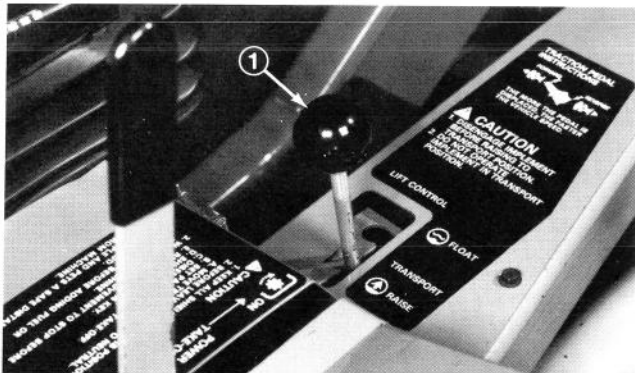
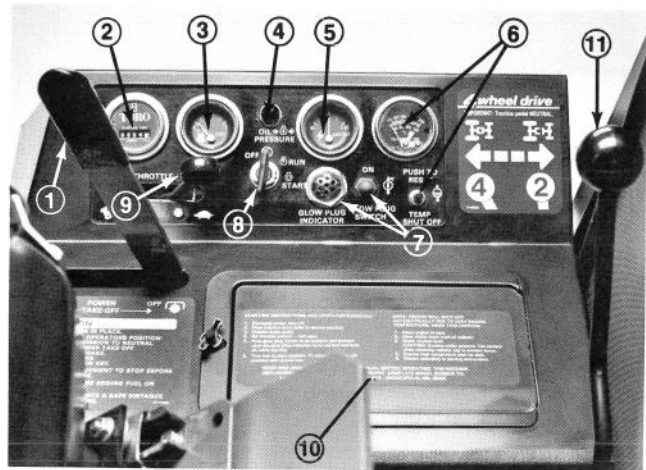

Figure 26
Figure 27
Lift Lever (Fig. 26)—The hydraulic lift lever has three positions: FLOAT, TRANSPORT, and RAISE. To lower implement to the ground, move lift lever forward into notch, which is the FLOAT position. The FLOAT position is used for operation and also when machine is not in operation. To raise
PTO Lever (Fig. 27)—The PTO lever has two positions: ON (engage) and OFF (disengage). Slowly push PTO lever fully forward to ON position to start the implement or cutting unit blades. Slowly, pull lever backward to OFF position to stop implement operation. The only time PTO lever should be in the ON position is when implement or cutting unit is down in operating position.
Hour Meter (Fig. 27)—The hour meter registers accumulated hours of engine operation. Use the hour meter to determine intervals for service maintenance and lubrication.
Fuel Gauge (Fig. 27)—Indicates quantity of fuel remaining in fuel tank.
Oil Pressure Warning Light (Fig. 27)—The oil pressure warning light glows and a buzzer sounds when oil pressure in engine drops below a safe level. If low oil pressure ever occurs, stop engine and determine the cause. Repair the damage before starting the engine again.
Ammeter (Fig. 27)—Ammeter shows charge rate of the battery by the alternator. When engine is running, there usually is a slight charge, unless engine is idling slowly. Needle points to 0 when battery is fully charged. By contrast, alternator is not charging the battery when needle points to (-) negative side of ammeter. If this happens, repair the charging system to prevent discharge of the battery.
Temperature Switch/Gauge and Reset Button (Fig. 27)—The temperature switch/gauge registers the temperature of the coolant in the cooling system. If temperature of coolant gets too high the engine will shut off automatically. When this happens, rotate ignition key to OFF. Automatic shut-off of the engine usually results from debris on front of screen or radiator, which reduces air flow. After cleaning outside of screen and radiator or repairing some other damage, press the reset button and start the engine.
Glow Plug Switch and Indicator (Fig. 27)—Use to preheat engine cylinders before and during starting procedures. Push switch lever upward and hold while watching indicator. Indicator glows red when sufficiently heated. Length of time necessary to preheat cylinders should be determined by atmospheric temperature; refer to Starting/Stopping Engine, page 22.
Key Switch (Fig. 27)—The key switch, which is used to start and stop the engine, has three position: OFF, RUN, and START. Rotate key clockwise to the START position to engage starter motor. When engine starts, release key and it will move automatically to the ON position. To shut engine off, rotate key counterclockwise to the OFF position.
Throttle Control (Fig. 27)—Throttle is used to operate engine at various speeds. Moving throttle forward increases engine speed—FAST; backward decreases engine speed—SLOW. The throttle regulates the speed of the cutter blades or other implement components and, in conjunction with traction pedal, controls ground speed of the traction unit.
4 Wheel Drive Control (Fig. 27)—Gently push lever forward to shift into 4 wheel drive or backwards to shift into 2 wheel drive. Always shift with traction pedal in neutral position. Make sure lever is all the way forward or backward.
A 40 amp circuit breaker is also incorporated to protect the entire wiring circuit. A reset button is located on the lower side of the panel, which can be reached after removal of the battery cover (Fig. 27, 29). The button should be depressed if a total loss of all electrical functions should occur. However, the electrical system should first be checked to ascertain the reason for the malfunction.
1. Ensure parking brake is set, PTO lever is in OFF position (Fig. 27), and lift lever is in TRANSPORT or FLOAT position (Fig. 26). Remove foot from traction pedal and insure it is in neutral.
2. Move throttle control (Fig. 27) to full FAST position.
4. Turn key in key switch to START position (Fig. 27). Release key immediately when engine starts and allow it to return to RUN position. Move throttle control to SLOW position.